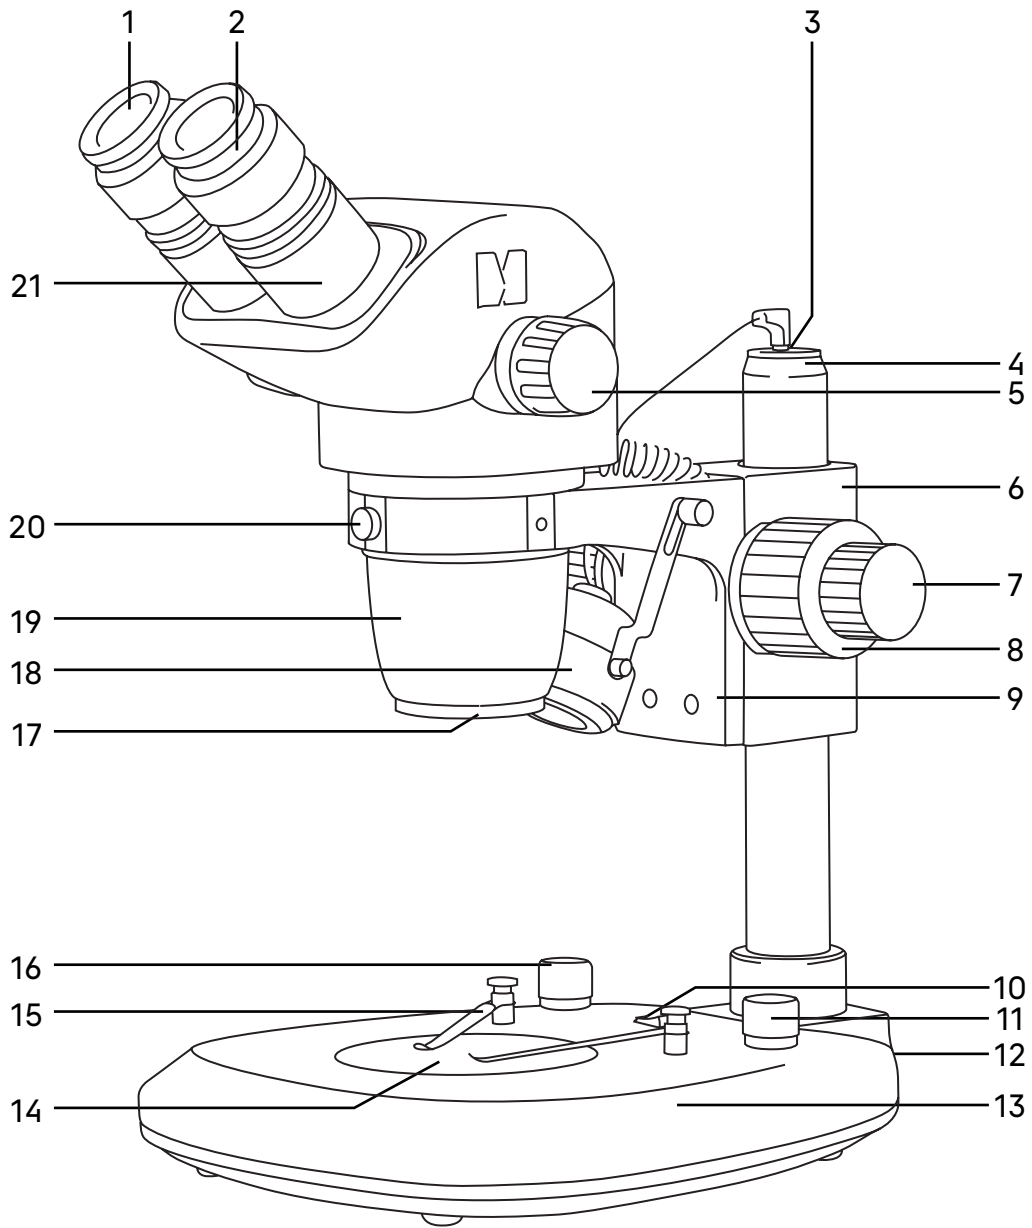

Fig. 1. MAGUS Stereo 8B Microscope
The general view of the microscope is given in Fig. 1.
The stand **4** (Fig.1) is mounted on the base **13** (Fig. 1). The stand is not removable.
Inside the stand is the focusing mechanism **9** (Fig. 1), on which the microscope head mount **6** (Fig. 1) is fixed.
On top of the stand is the reflected light illumination socket **3** (Fig. 1).
The base **13** (Fig. 1) houses a power supply unit and a transmitted light LED. The stage plate **14** (Fig. 1) provides light scattering and uniform illumination of the entire surface of the specimen. The switch **10** (Fig. 1) is used to switch the light source on and off.
The brightness of the reflected light illuminator is adjusted using the knob **11** (Fig. 1), transmitted light brightness – using the knob **16** (Fig. 1).
The base also serves as a stage. The specimen is placed on the stage plate **14** (Fig. 1). The stage plate is inserted in the base opening. The diameter of the plate is 95mm.
The specimen can be fixed on the plate by two holders **15** (Fig. 1).
The focusing mechanism **9** (Fig. 1) moves on the stand **4** (Fig. 1), bringing the specimen into focus in accordance with the specimen height and the working distance of the objective.
The microscope head mount **6** (Fig. 1) is secured on the focusing mechanism. The total vertical travel range is 50mm.
The microscope head is installed on top of the mount and secured by the fixing screw **20** (Fig. 1). The microscope head can be turned sideways in the mount and fixed in any desired position.
The eyepieces **1** (Fig. 1) are mounted in the eyepiece tubes **21** (Fig. 1) of the microscope head. The tubes are adjusted to the observer's interpupillary distance, ranging from 54 to 75 mm.
To mount the camera (video eyepiece), remove the standard eyepiece, install the 23.2-30 mm adapter ring into the eyepiece tube **21** (Fig. 1), and then insert the C-mount adapter into it. Connect the camera to the adapter. The camera is used to transmit the image to a computer screen or monitor/TV.
The zoom objective lens **19** (Fig. 1) has 0.65–5.5x magnification and allows for smooth change of magnification up to 8.4 times with no loss of quality and maintaining a large working distance of 105mm.
The microscope magnification is changed by rotating the knob **5** (Fig. 1).
The 10x eyepieces have a linear field of view of 22mm (WF 10x/22). Each eyepiece has a diopter adjustment **2** (Fig. 1). The eyepiece tubes have a secure eyepiece mount design that prevents the eyepieces from accidentally falling out when the microscope is moved. The eyepieces are fixed in the tubes by screws.
The oblique illuminator **18** (Fig. 1) is fixed in the microscope head mount. The illuminator cord is plugged in the socket **3** (Fig. 1).
- Insert the stage plate **14** (Fig. 1). To observe transparent objects, use a glass plate. To observe opaque objects, use a black-and-white plate. To increase contrast, the white side of the plate is used for dark-colored objects, while the black side is for light-colored objects.
- Install the specimen holders **15** (Fig. 1).
- Install the microscope head in the ring of the mount **6** (Fig. 1). Secure the microscope head by the fixing screw **20** (Fig. 1). Do not overtighten the screw.
- Secure the microscope head mount **6** (Fig. 1) along with the focusing mechanism **9** (Fig. 1) on the stand **4** at the desired height using the locking screw on the back of the microscope.
- Set the brightness adjustment knobs **11** and **16** (Fig. 1) to the minimum position.
Set the minimum magnification of the 0.65x objective by rotating the zoom knob 5 (Fig. 1). The zoom knobs are on both sides of the microscope head.
Screw the required objective lens **19** (Fig. 1) into the thread of the objective part. The 0.5x reducing objective lens increases the working distance and field of view.